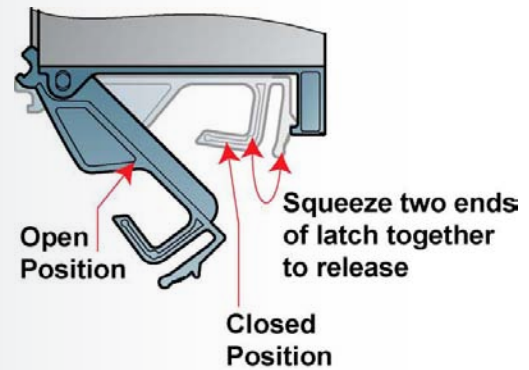

Fig. 31 - Cooling Fan Module Latch Operation
1. Grasp the latch (Fig. 31) between your thumb and forefinger. Squeeze your thumb and forefinger together to release the latch.